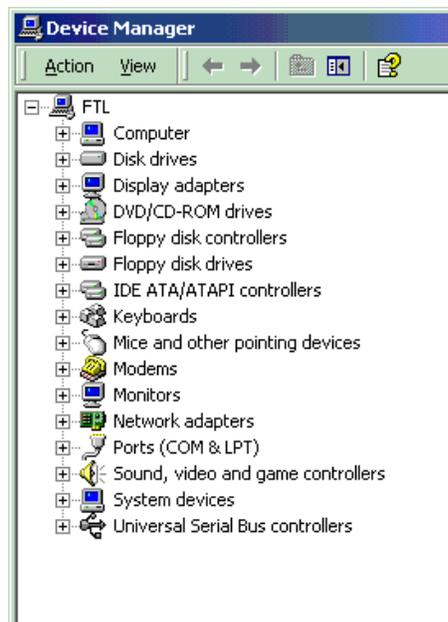

Figure 98. Device Manager Window
2. Click the **Hardware** tab. Then click **Device Manager**. The Device Manager window opens (Figure 98).